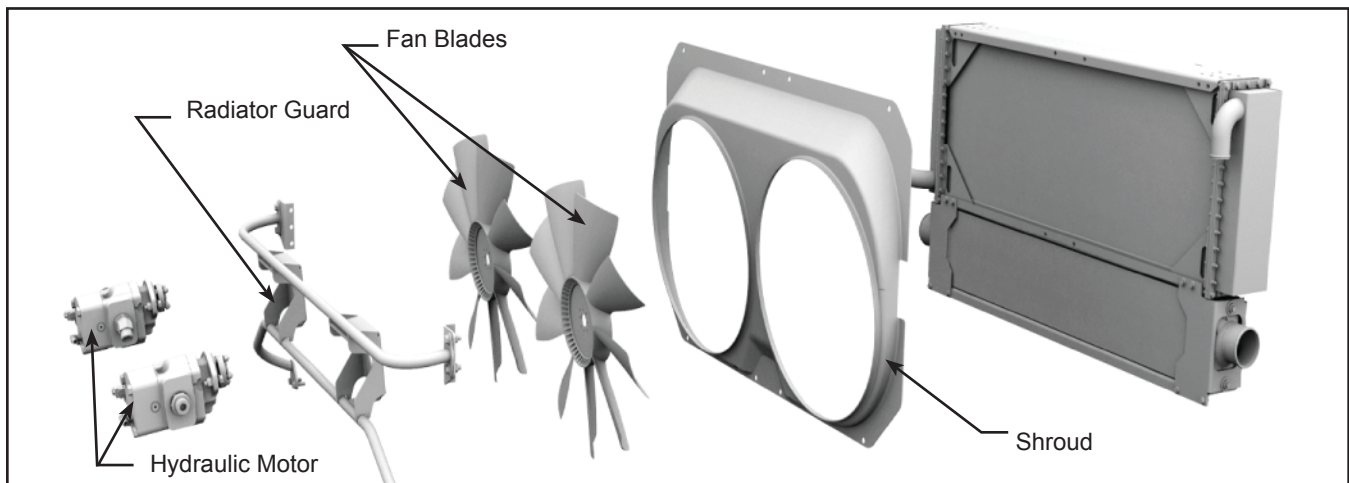

Figure 9 - Radiator Assembly
- 1.30. Remove the radiator spider assembly and the shroud from the radiator. See Figure 9.